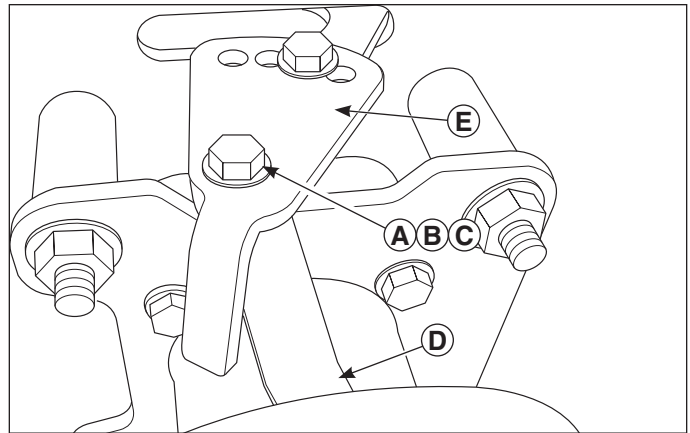

Figure 4. Removing the Brake Hub
8. Remove the bolt (A, Figure 4), washer (B) and nut (C) that secures the brake linkage arm (D) to the range selector plate (E).
14. Reinstall the bolt (A, Figure 4), washer (B) and nut (C) that were removed in step # 8 to secure the brake linkage arm (D) to the range selector plate (E).